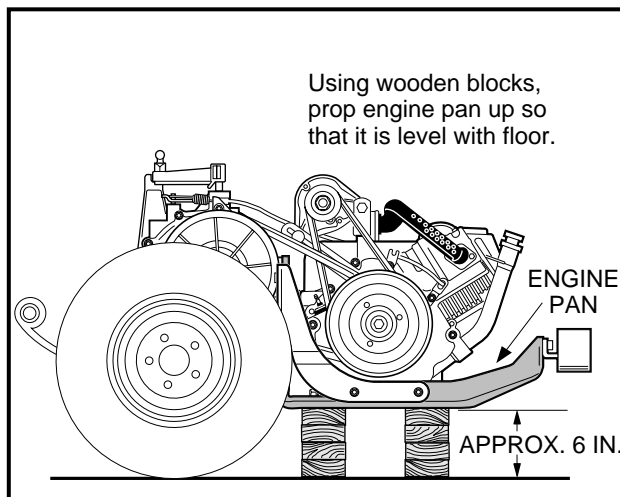

Figure 16-24 Position Powertrain
14. Place blocks under the engine pan so they will completely support the engine and keep it **level to the floor** (**Figure 16-24, Page 16-11**). See following **NOTE**.